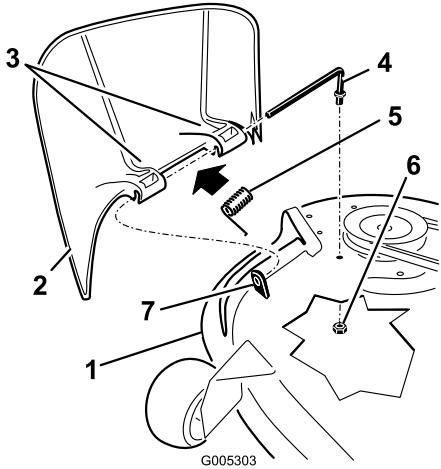

Figure 48
6. Place the spring on the rod, with end wires down, and between the grass deflector brackets. Slide rod through second grass deflector bracket (Figure 48).
7. Insert rod at front of grass deflector into short stand-off on deck. Secure rear end of rod into the mower with a nut (3/8 inch) (Figure 48).
1. Locate items shown in Figure 48.
2. Remove the nut (3/8 inch) from the rod under the mower (Figure 48).
3. Slide the rod out of the short stand-off, spring, and grass deflector (Figure 48). Remove the damaged or worn grass deflector.
4. Replace the grass deflector (Figure 48).